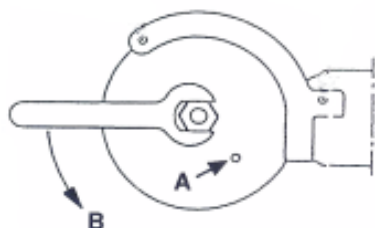

Figure 3: Loosening the saw blade
2. Insert the retention pin supplied into the saw blade bore (A) as a twist lock and turn the saw blade until the retention pin contacts the safety hood (see Fig. 3)
3. Remove the hex. nut using the single-head wrench supplied - turn in anti-clockwise direction (arrow B). (see Fig. 3)